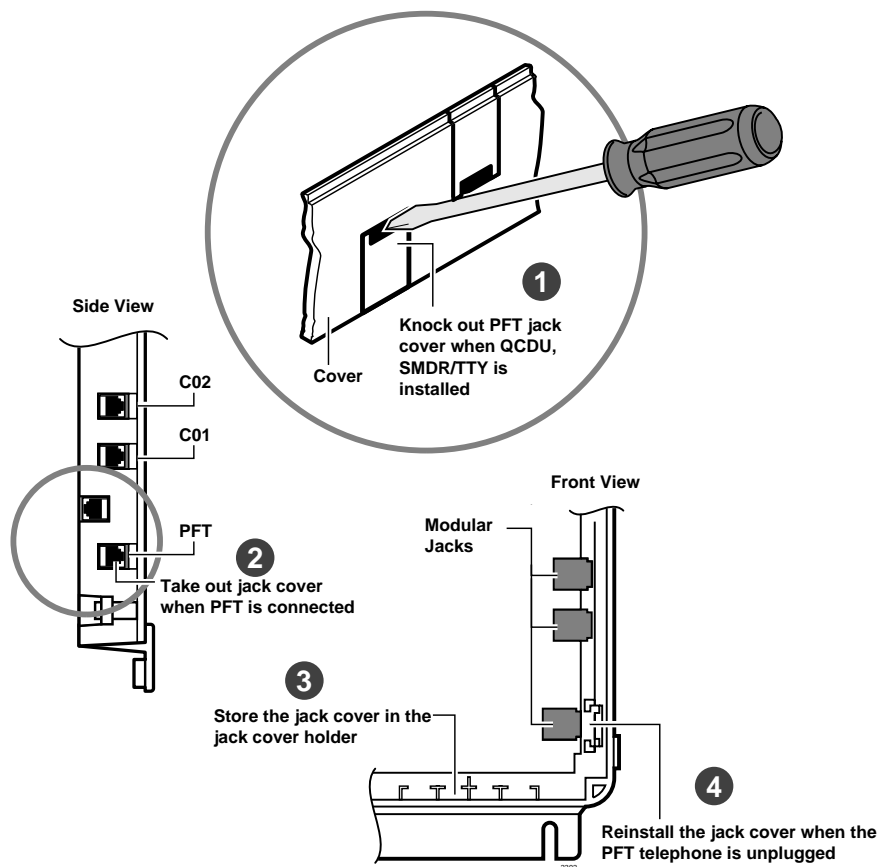

Figure 1-11 Modular Jack Cover
1. Remove the RJ11 cover (Figure 1-11) from the PFT jack and store the jack cover.
4. Connect the Frame Ground (FG) lead from the QCDU2 to the screw nearest the QCDU2 located on the system Frame Ground bar. Remove the "knock-out" from the KSU cover CO3 or CO4 access slot, and store the "knock-out" in the slots provided in the KSU base. (See Figure 1-11.)
3. Remove the “knock-out” from the KSU cover SIO1 or SIO2 access slot, and store the “knock-out” in the slots provided in the KSU base. (See Figure 1-11.)